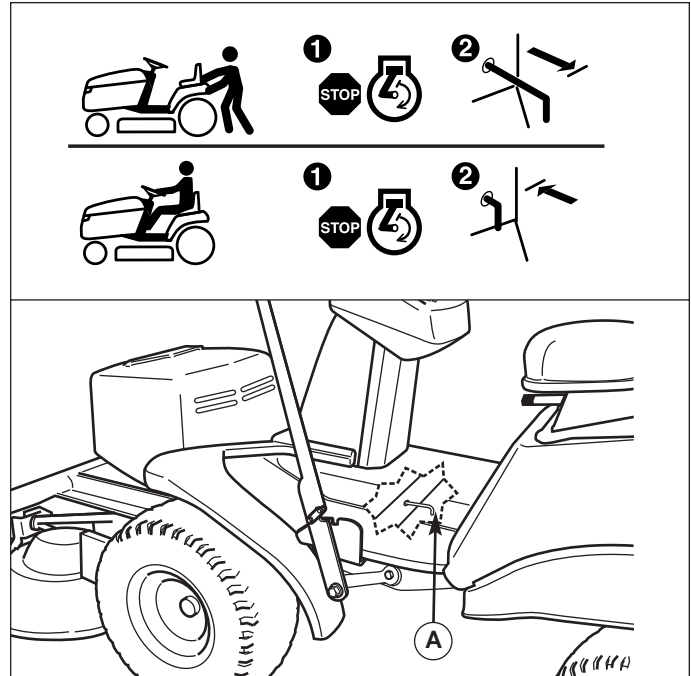

Figure 3. Transmission Release Lever
2. Pull the transmission release back approximately 2-1/2" (6 cm) to lock into released position (Figure 3).